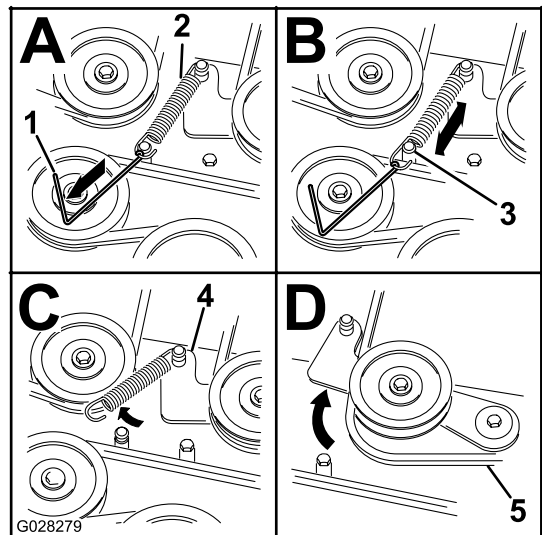

Figure 66
7. Using a spring removal tool, (Toro Part No. 92-5771), remove the idler spring from the deck post to remove tension on the idler pulley (Figure 66).
10. Install the new belt around the mower pulleys and the clutch pulley under the engine (Figure 66).
- Using a spring-removal tool, (Toro Part No. 92-5771), install the idler spring over the deck post and placing tension on the idler pulley and mower belt (Figure 66).